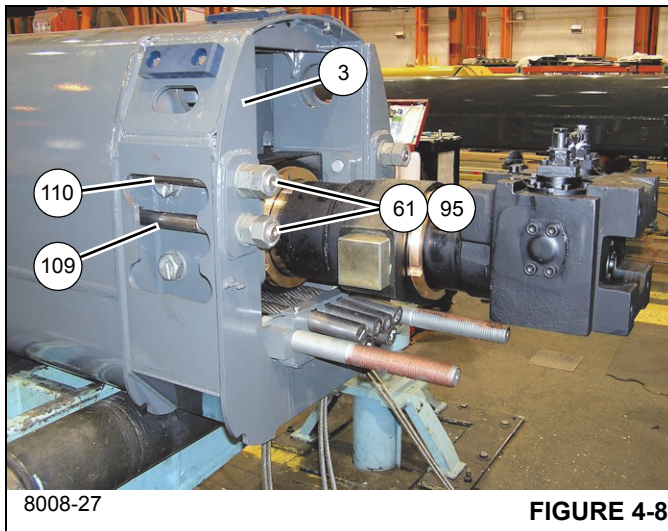

FIGURE 4-8
37. Remove the two nuts (95) and one flat washer (61) securing each of the four tele 4 extends cables (109, 110) to the top rear of tele 2 (3) (see Figure 4-8).
38. Remove the two tele 4 extend cables (109, 110) from the holes in the rear of tele 2 (3) (left and right sides) (see Figure 4-8).